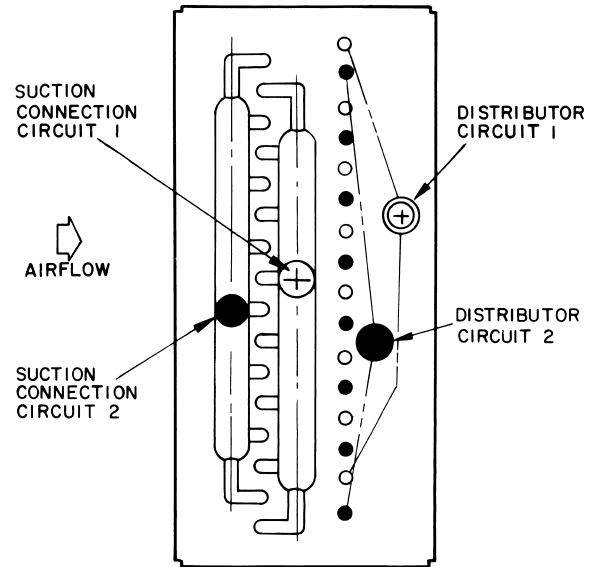

Fig. 23 — Typical Direct-Expansion Row Split Coil
Refrigerant Piping, Direct-Expansion (DX) Coils (Fig. 23) — Direct-expansion coils are divided into 2 or 4 splits depending upon the unit size and coil circuiting. See Table 7 for coil circuiting data. Each split requires its own distributor nozzle, expansion valve, and suction piping. Suction connections are on the air entering side when the coil is properly installed. Matching distributor connections for each coil split are on the air leaving side. See unit label or certified drawing to assure connection to matching suction and liquid connections. See Table 8 for distributor part numbers.
Row split coils utilize special intertwined circuits (as shown in Fig. 23); either split of these row split coils can be *first on, last off*.